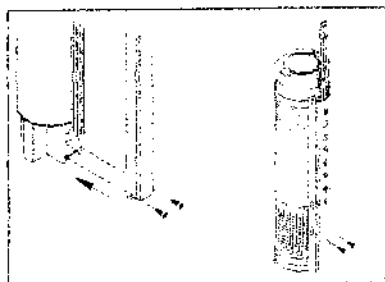

Fig. 8
3. Fasten the cable guard to the cable plug with the four screws supplied, see fig. 8.